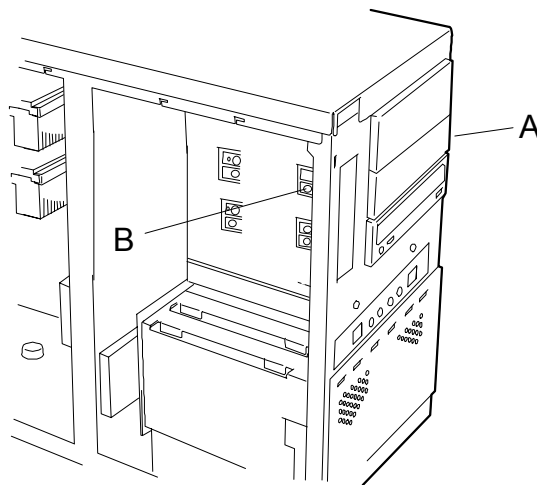

Figure 4-27. Removing the Filler Panel
5. Remove the filler panel from the system bay location you are installing a media device. The filler panel is released by removing one screw located on the front right side of the filler panel (Figure 4-27, A) and another screw located inside the system on the left side of the filler panel (Figure 4-27, B).